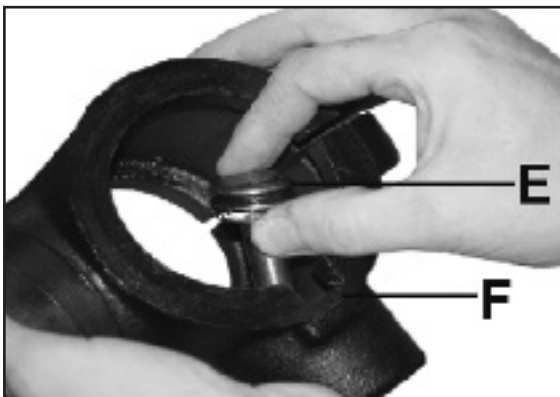

Figure 3
4. Insert the worm elevation gear (E-Fig. 3) into the table support bracket (F-Fig. 3) as shown.